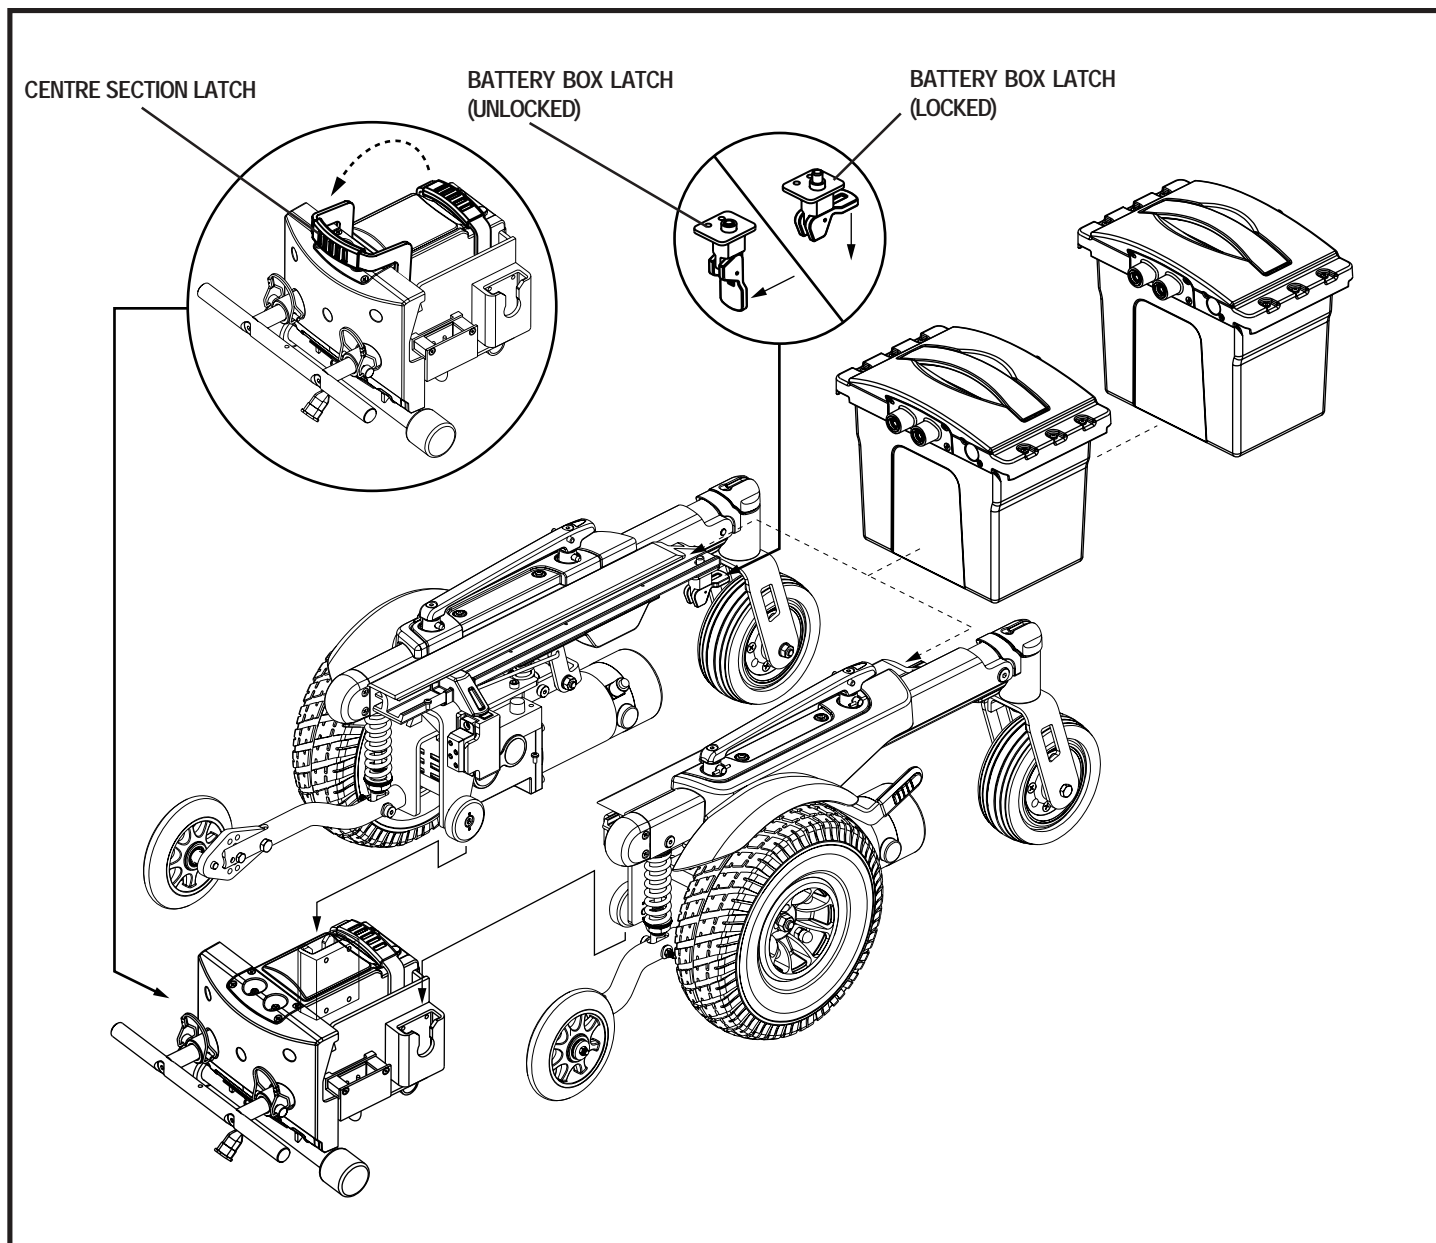

Figure 14. Quantum 1107 Battery Box Removal and Frame Separation
5. Flip down the battery box latches on each side of the power base. See figure 14.
7. Flip up the centre section latch. See figure 14.